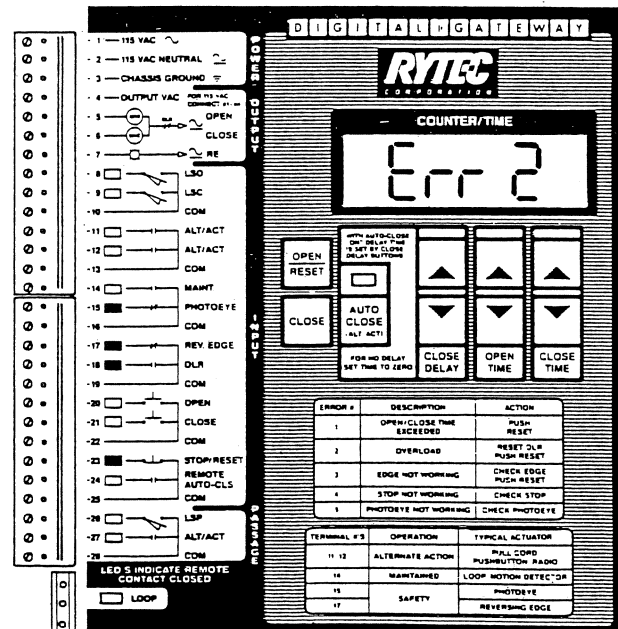

Figure 12.
7.2 Error 2 (Err 2) — see Figure 12